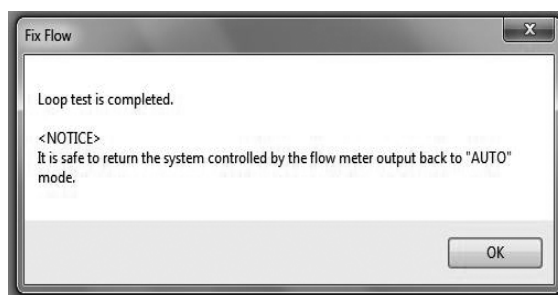

Fig. 3-60
- (5) By clicking "Stop" button, the message box (Fig. 3-60) will be displayed. Click "OK" button.